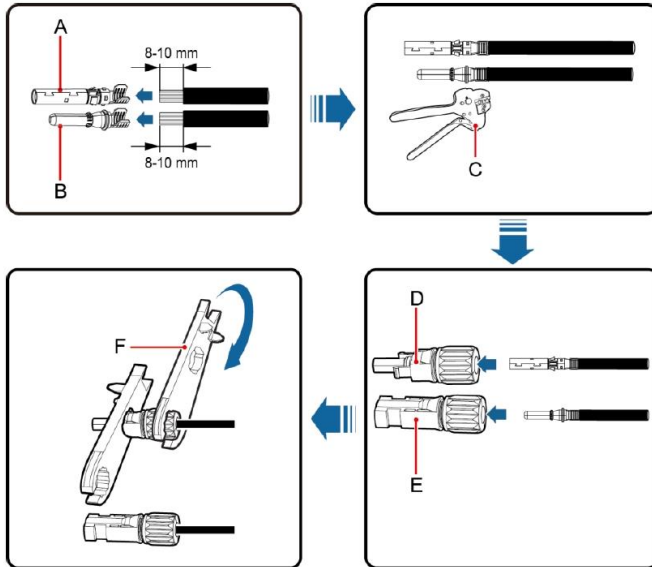

Figure 4.8 Connection between DC connector and solar modules
- (1) Lighting, short-circuit and other protection measures which meet the local electrical safety laws and regulations are needed before the AC connection.
- (2) Connect the output cables of solar modules to the DC connector of inverter as Figure 4.8 shows. Loose the nut of connector and remove the isolation layer of the DC cable for about 8-10mm. Insert the conductor part into the appropriate position of the connector, crimp the MC4 DC terminal of the inverter and tighten the nut with a torque of 2.5-3Nm. The wiring of negative pole is the same as that of the positive pole. Ensure the poles of solar modules are well connected with the connectors;